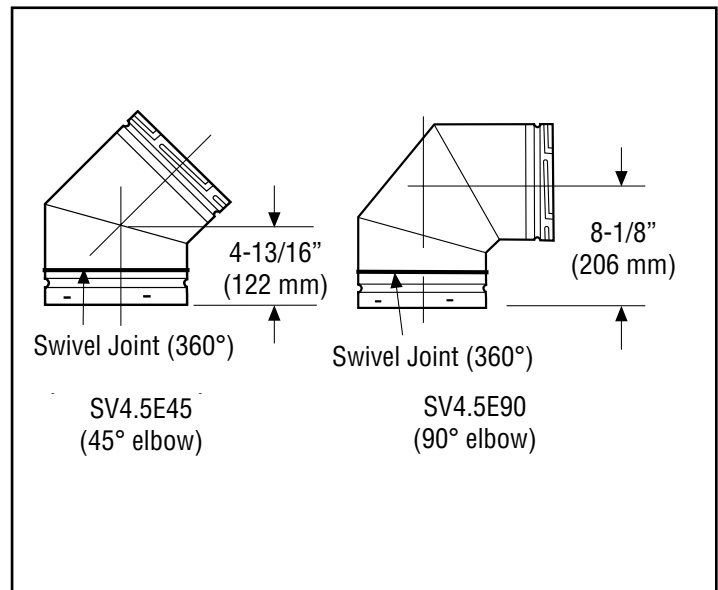

Figure 13 - Elbow Dimensions
- 3. Change vent direction**—At transition from or to a horizontal/inclined run, install SV4.5E45 or SV4.5E90 elbows in the same manner as the straight vent sections. The elbows feature a twist section to allow them to be routed about the center axis of their initial collar section to align with the required direction of the next vent run element. Twist elbow sections in a clockwise direction only so as to avoid the possibility of unlocking any of the previously connected vent sections (*Figure 13, Page 17*).
Vent elbows are available in 90° and 45° configurations. Refer to **Figure 13** for the SV4.5E45 and SV4.5E90 elbow dimensions. The elbows feature a twist section to allow them to be routed about the center axis of their initial collar section to align with the required direction of the next vent run element.
1. Rotate the elbow in a clockwise direction (to avoid the possibility of unlocking any of the previously connected vent sections) for proper alignment (**Figure 13**). See Connecting the vent pipe for more information.
1. **Analyze the vent route and determine the number of vent sections and elbows required**—See Effective Vent Length on **Table 2, Page 14** for more information. Plan the venting so that a joint does not occur in the ceiling or roof joists. Allow for elbows (**Figure 13, Page 17**). Maintain the minimum clearances for combustibles (**Page 9**).